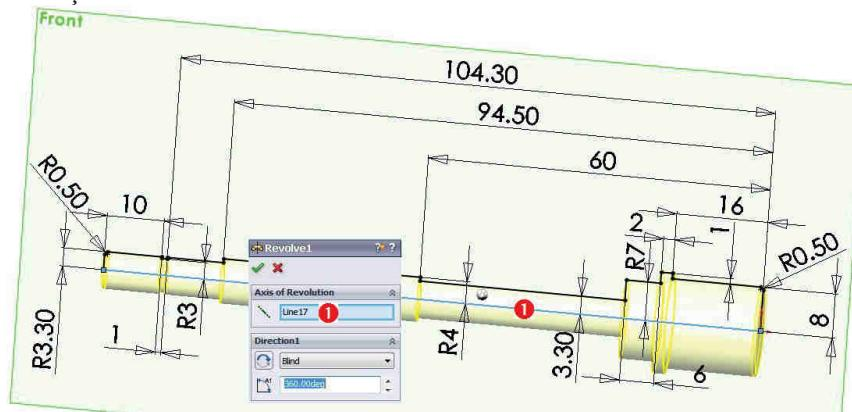

Fig. 2.57
Comanda Sketch – Fig. 2.57 – plan Top.
comanda Revolved Boss/Base – Fig. 2.57 - selectie axă de revoluție ① / Blind / / .
**2 Revolving the shaft profile:** the Revolved Boss/Base command – Fig. 2.57 – select axis of revolution ①/ Blind / / .